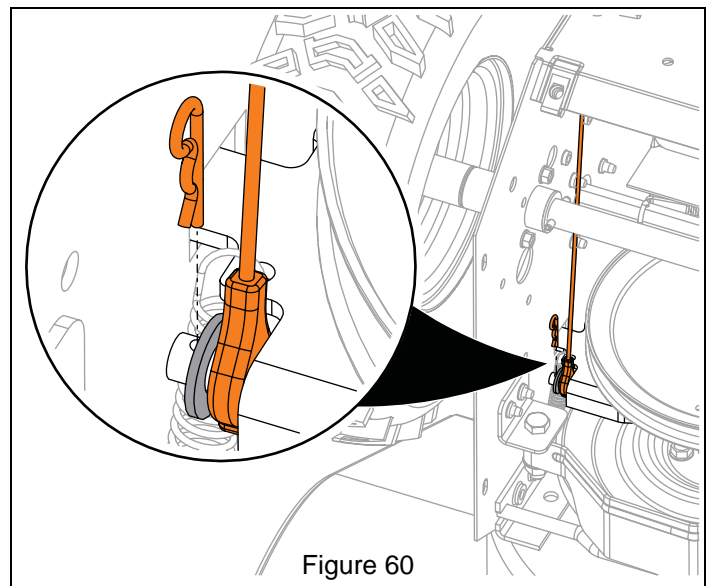

Figure 60
- See Figure 60.
**IMPORTANT:** Hairpin must be reinstalled in the orientation shown in Figure 60 so it does not interfere with swing gate return spring.